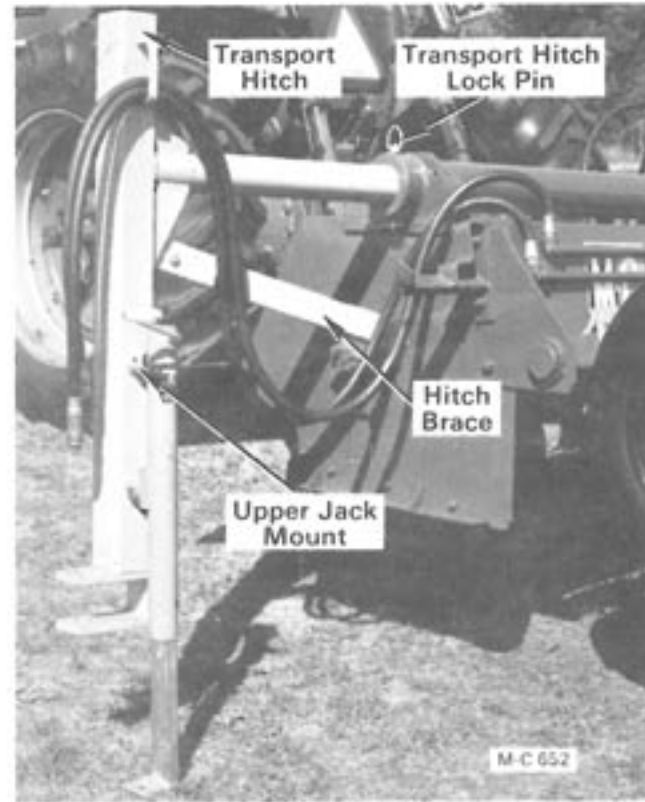

Figure 15D
- Connect the Shredder hydraulic hoses to the tractor. Lower the transport hitch with the jack. Retract the jack all the way and move it to the upper mount on the transport hitch, see Figure 15D.
- Disconnect the transport hitch brace from the Shredder. Remove the hair pin clip from the end of the transport hitch lock pin and pull the pin out, see Figure 15D. Store the lock pin in the holder on the left side of the Shredder, see Figure 15F.